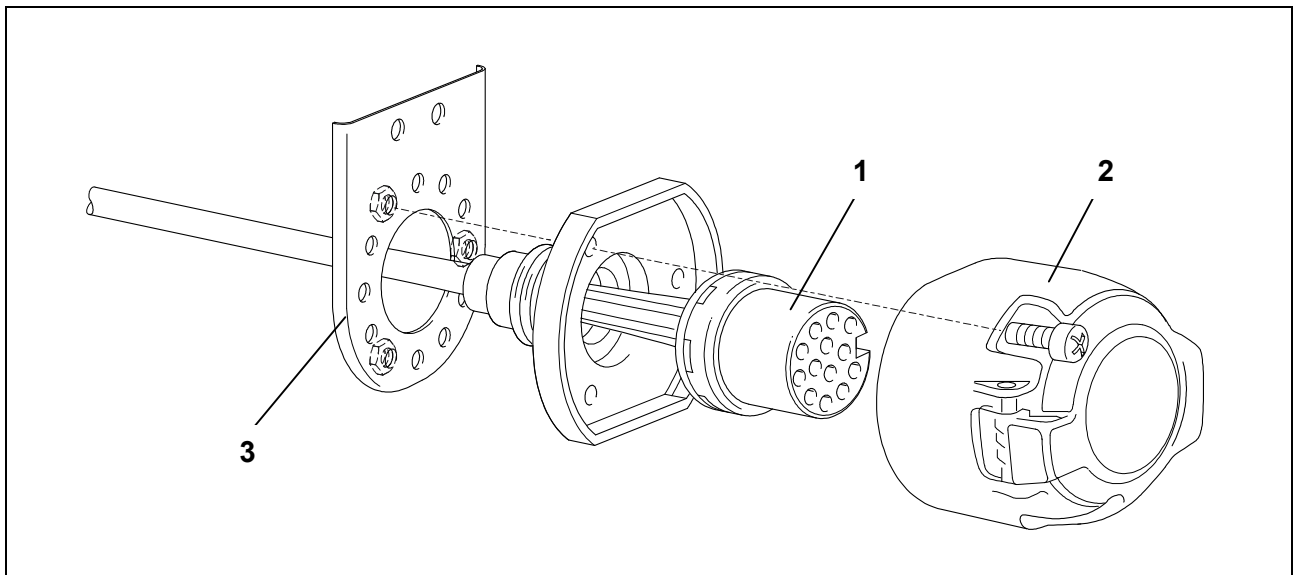

Fig. 2: Socket installation
7. Press the contact insert (Fig. 2/1) into the socket housing (Fig. 2/2) and push the rubber grommet towards the socket.
8. Screw the socket onto the holding plate (Fig. 2/3) using the supplied screws.